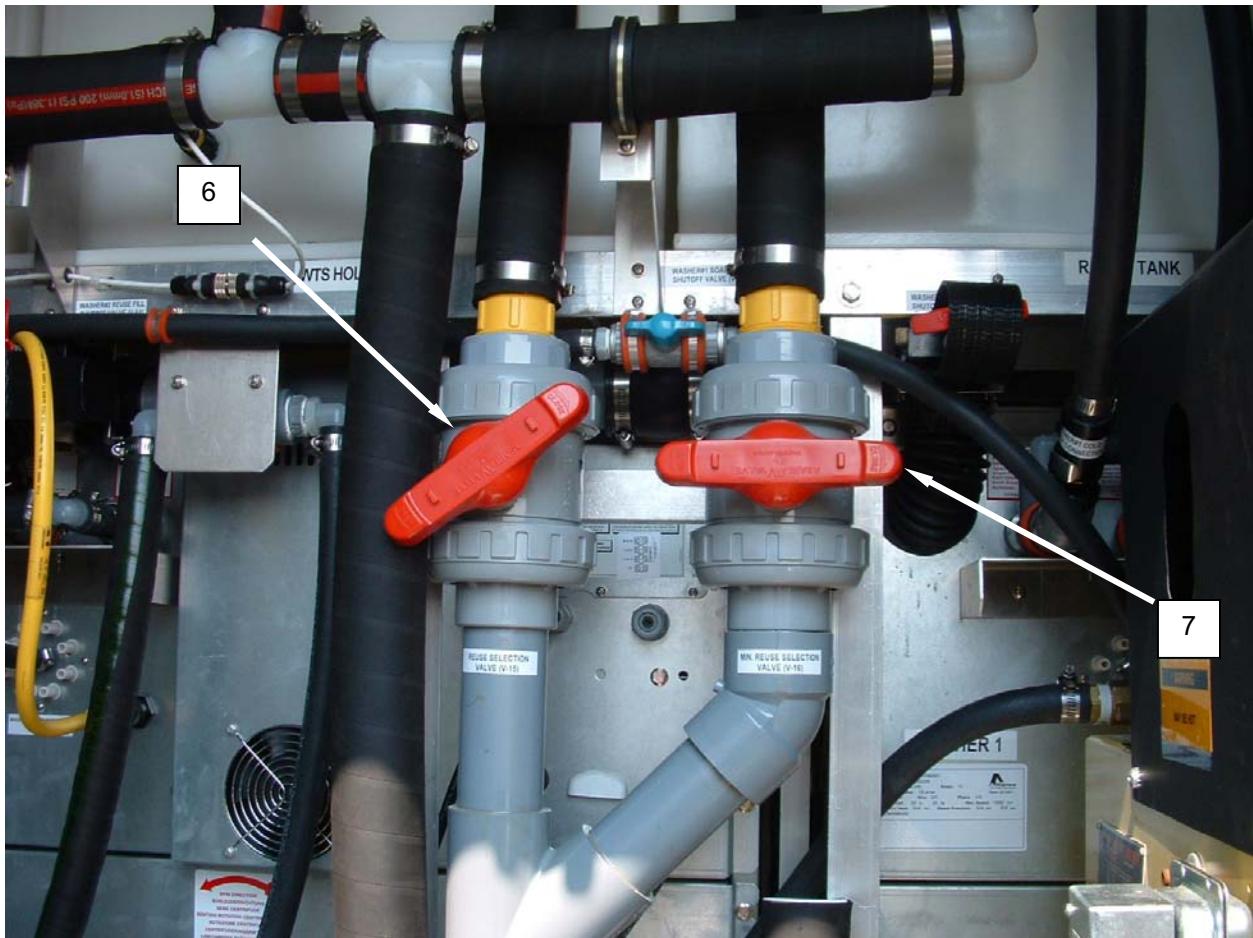

Figure 5. Valves V-15 and V-16.
Valve V-15 (**Figure 5, Item 6**) is shown throttled to a midway position. It is inadvisable to open V-15 fully, as this may cause the WTS Hold Tank to overflow.
1. Locate the water reuse selection valves V-15 (**Figure 5, Item 6**) and V-16 (**Figure 5, Item 7**) located behind the washers, and set the valves as shown in Figure 5.